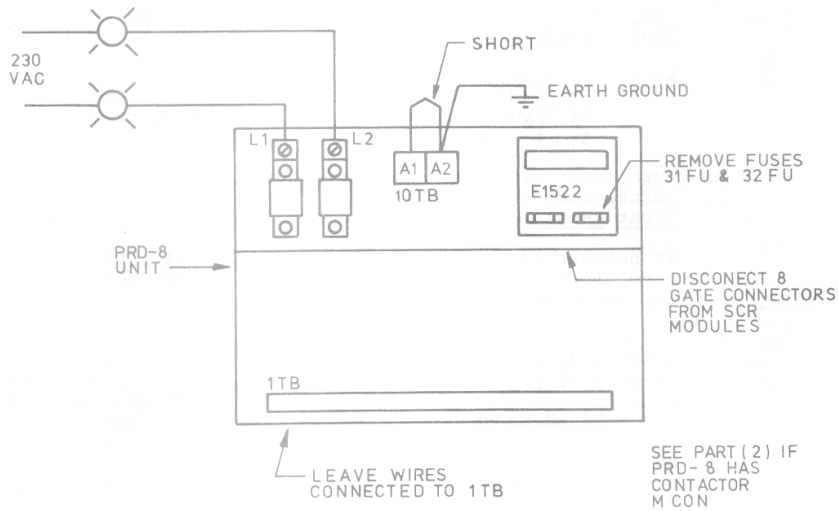

FIGURE 9
- 1) Turn power off at the ac disconnect. Connect light bulbs in series with the ac lines as shown in Figure 9. Also disconnect motor armature wires and short 10TB Lugs A1 and A2 and ground Lug A2 as shown. Replace 1FU, 2FU, or 3FU if blown. Remove Fuses 31 FU and 32 FU from the E1522 board. Disconnect eight gate connectors from SCR modules. (Remove three upper screws on board E1512 and hinge it outward to allow access to the modules).